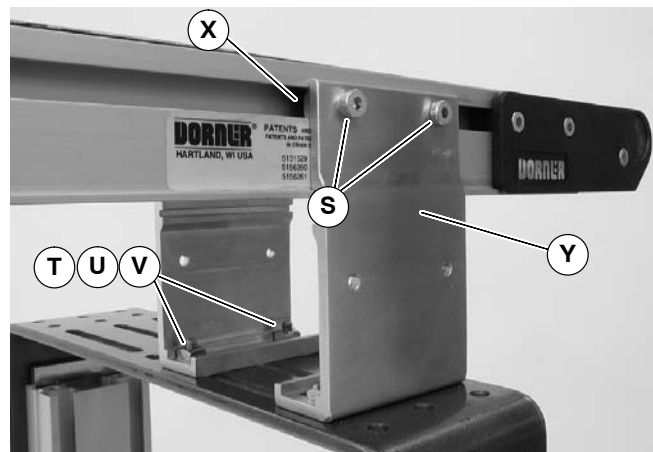

Figure 10
- Insert T-bars (W of Figures 8 & 9) into conveyor side slots (X of Figure 10). Fasten brackets (Y of Figure 10) to conveyor with mounting screws (S).
- Fasten brackets to support stand with mounting screws (T of Figure 10), washers (U) and nuts (V).
- Tighten screws (S & T of Figure 10) to 60 in-lb (7 N-m).